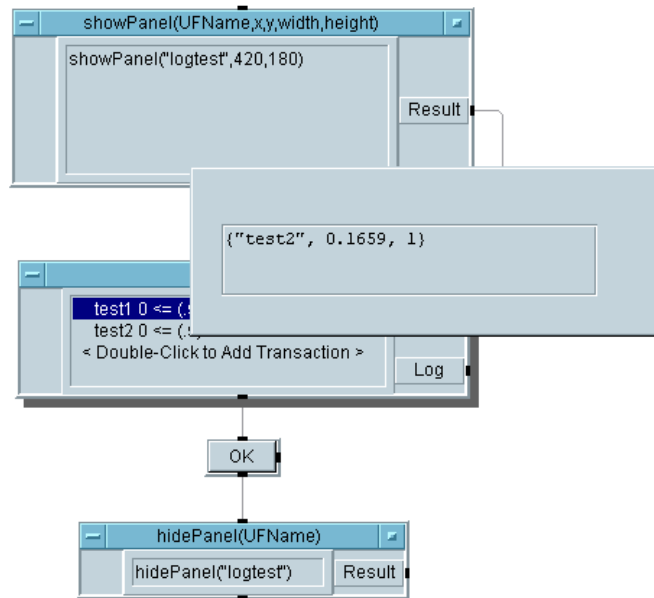

Figure 280 The Status Panel Program (running)
- 7 Run the program. It should look like Figure 280.